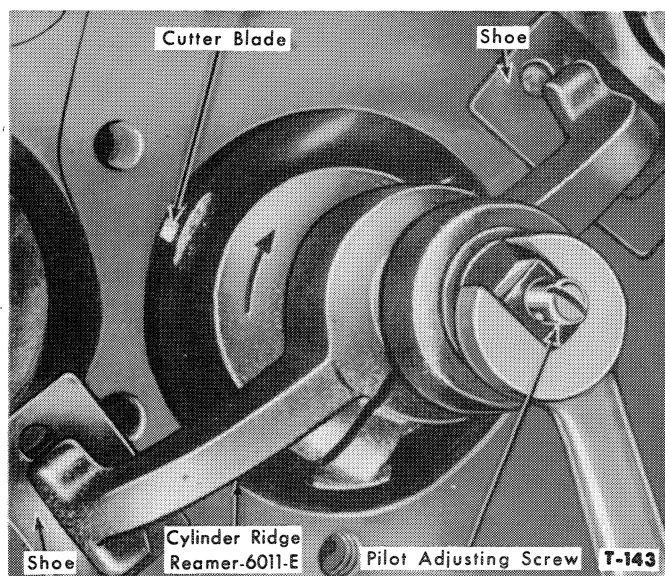

Figure 39—Removing Ridge From Cylinder
2. Remove the ridge from the top of each cylinder with Cylinder Ridge Reamer 6011-E, see Figure 39.